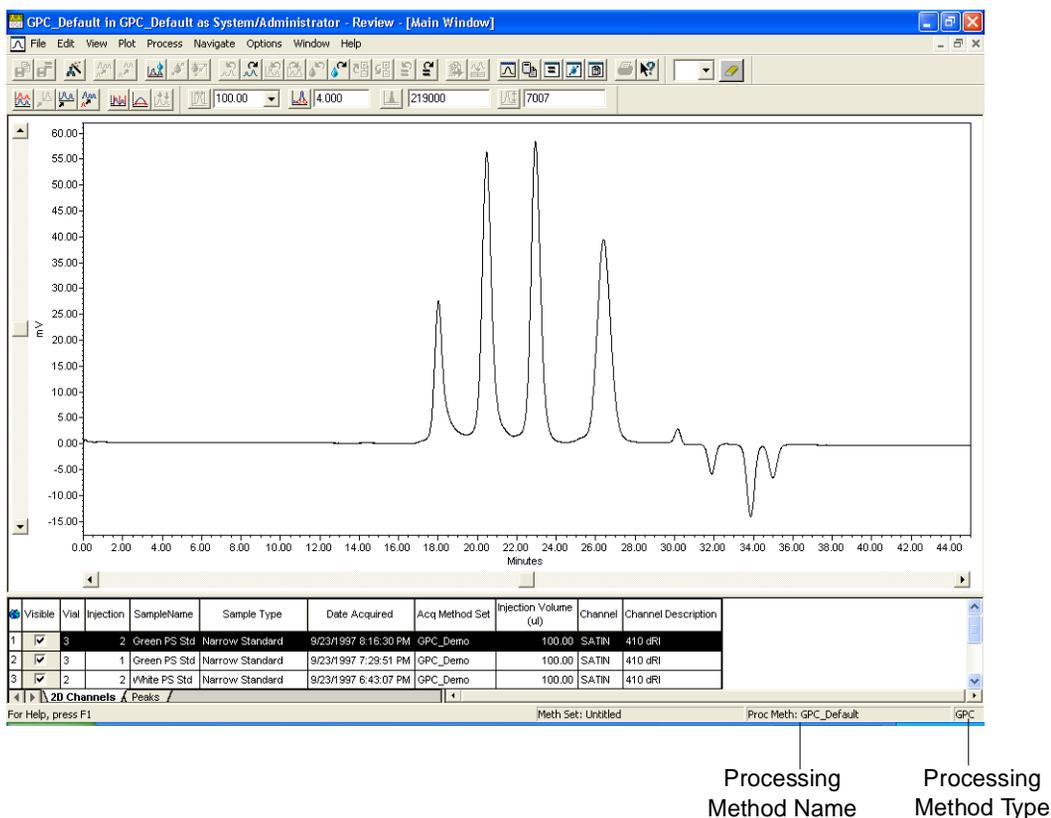

Figure 2-17 Preparing to Process Narrow Standards in Review
4. Select **File > Open > Processing Method**. The Open an Existing Processing Method dialog box appears. Select **GPC_Default**, then click **Open**. The processing method name and type appear at the bottom of the Review window (Figure 2-17).